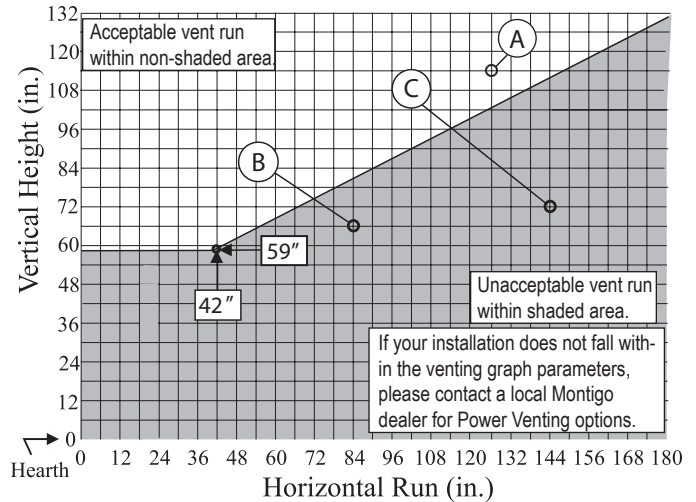

Figure 14a. HP38PR\* Rear Vent Venting Graph for wall mounted terminations.
**Figure 15b.** HP38PR\* Rear Vented, wall mounted Multi-elbow termination installation. The vent run must comply with the Venting Graph for Rear vent, wall mounted terminations, Figure 14a.